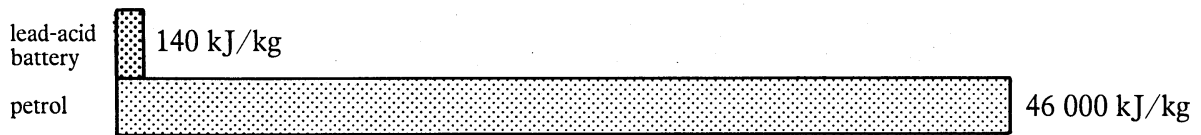

Figure 4 Energy density of lead-acid battery and petrol
To store electricity, you need a battery. Batteries are usually quite heavy. The most commonly used battery is the heavy lead-acid battery. To store petrol you only need a petrol tank. We can compare the 'energy density' of petrol with that of a fully-charged lead-acid battery. The 'energy density' is the energy stored per kilogram of energy store. In the figures given in Figure 4 on the next page, energy is measured in kilojoules. Look at Figure 4, then answer Questions 5 and 6.
- 5 Use the figures in Figure 4 to explain why electric vehicles need charging every night.